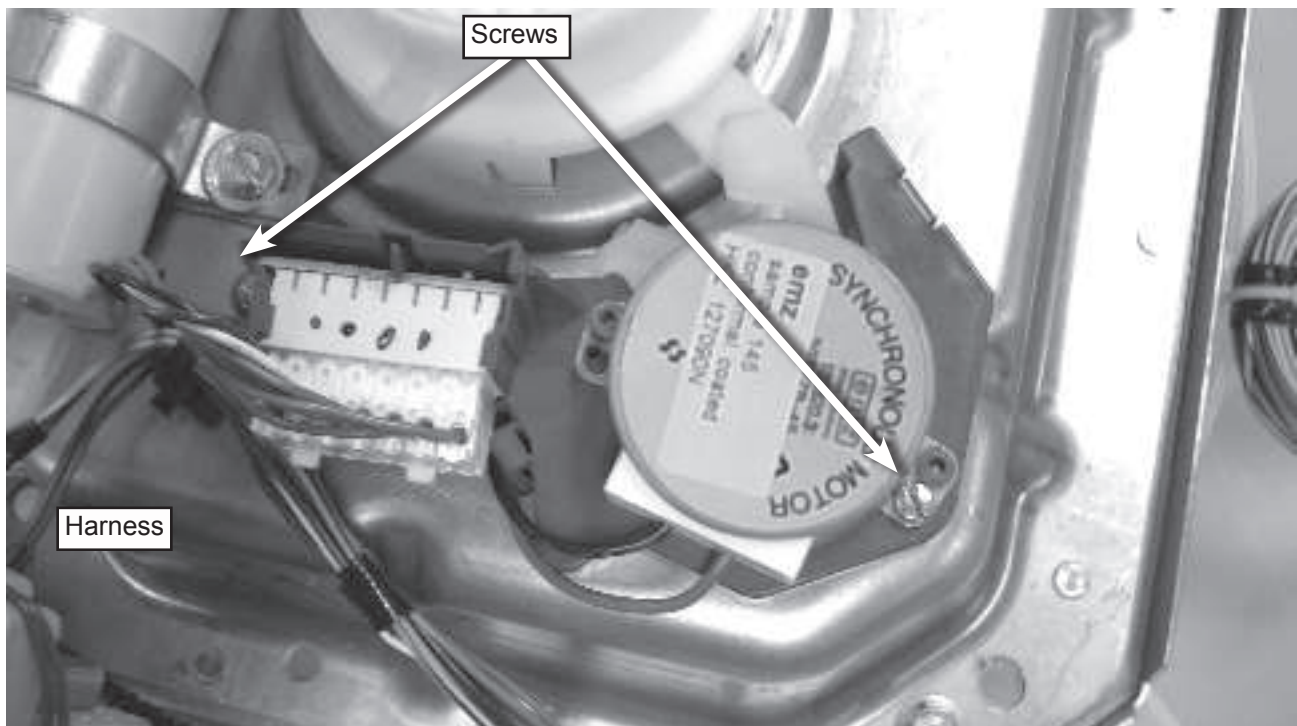

Figure 1
5. Remove the harness from the shifter, see figure 1.
6. Remove the two mounting screws, see figure 1.